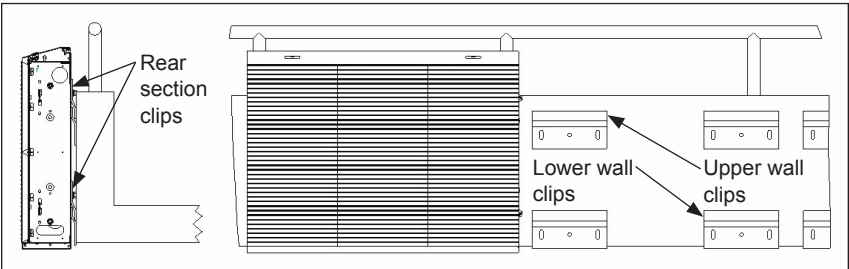
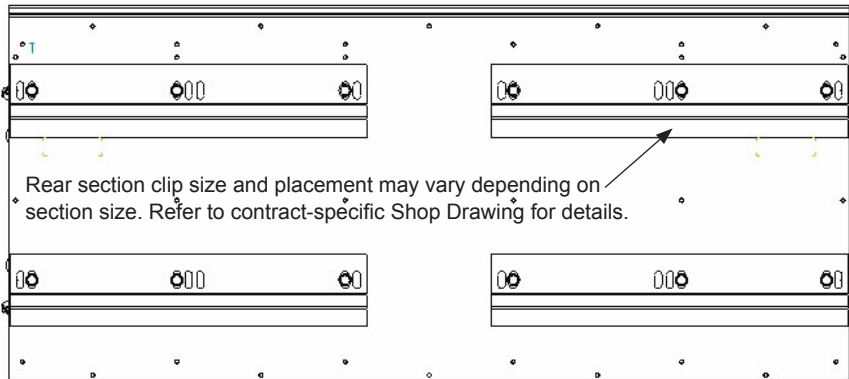

Figure 6: Mounting Display to Wall
Figure 7: Rear Section Clips
- 4. Use the rear section clips to mount the display section to the wall. Refer to **Figure 6** and **Figure 7**. Ensure the section sits completely in the upper wall clips without the upper and lower wall clips extending past the end or edges of the rear section clips. If the rear section clips need to be moved (other than being adjusted up or down), contact Structural Engineering.